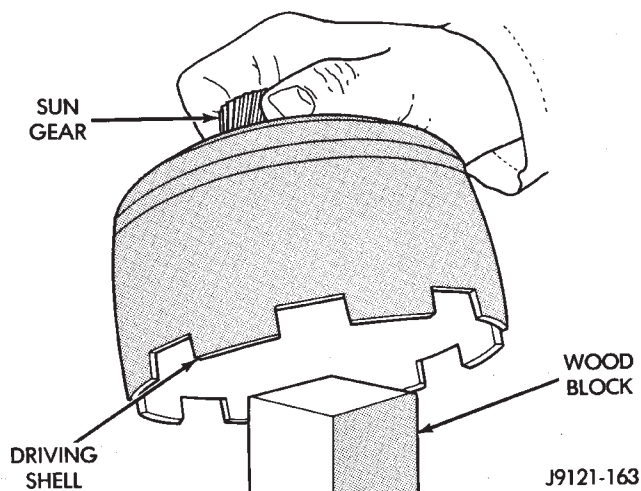

Fig. 172 Supporting Sun Gear On Wood Block
(10) Position wood block on bench and support sun gear on block (Fig. 172). This makes it easier to align and install sun gear lock ring. Keep wood block handy as it will also be used for geartrain end play check.